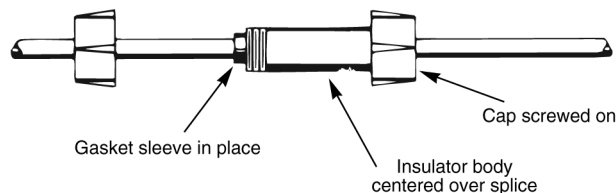

Figure 9 – Tighten end caps.
- Center insulator body over splice and slide gasket sleeves into body as far as they will go. Screw caps onto insulator body (Fig. 9) and tighten by hand for a strong, waterproof splice.